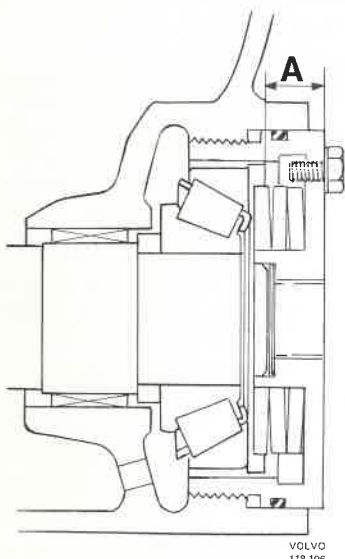

Fig. 92-31. Adjusting the pre-load
6. Remove the bolt in the cover. Screw in the cover so far that a measurement, $A = 20.1 \text{ mm}$ (0.8 in.), see Fig. 92-31, can be measured through the hole of the cover. Screw in the bolt when the correct measurement has been obtained.